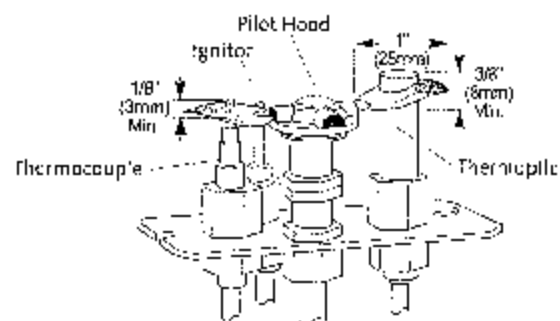

Figure 48 Correct Pilot Flame Pattern
- PILOT FLAME:** The pilot flame should be steady, not lifting or floating. The flame should be blue in color around the pilot hood, with traces of yellow toward the outer edges. It is imperative that the pilot flame engulf the top  $3/8$ " of the thermopile (power generator) and the top  $1/8$ " of the quick drop out thermocouple. The pilot flame should project out of the pilot hood 1" at all three parts. See Figure 48.